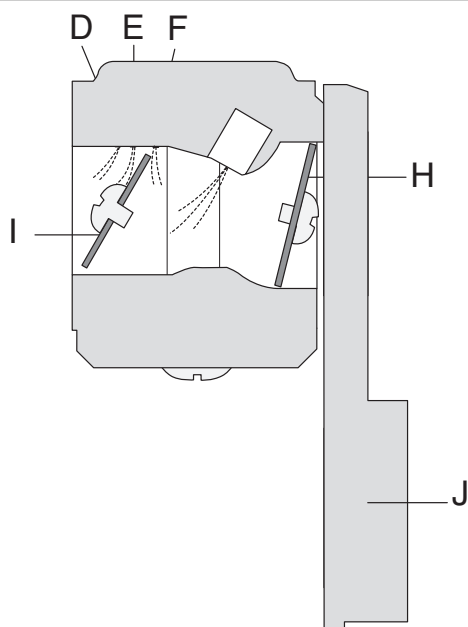

Fig. 4
1. The taper on the adjuster screw (F) should not have any wear marks. See fig. 4.
2. The eccentric face on the pump piston (I) should not have any wear marks. See fig. 4.
3. The gear on the pump piston (I) should be undamaged. See fig. 4.
In the cold start mode (fig. 4) the choke valve (H) is fully closed. This increases the vacuum in the carburettor so that fuel is sucked more easily from all the diffuser jets (D, E and F). The throttle valve (I) is partly open. Extra air inlet (J) is closed.